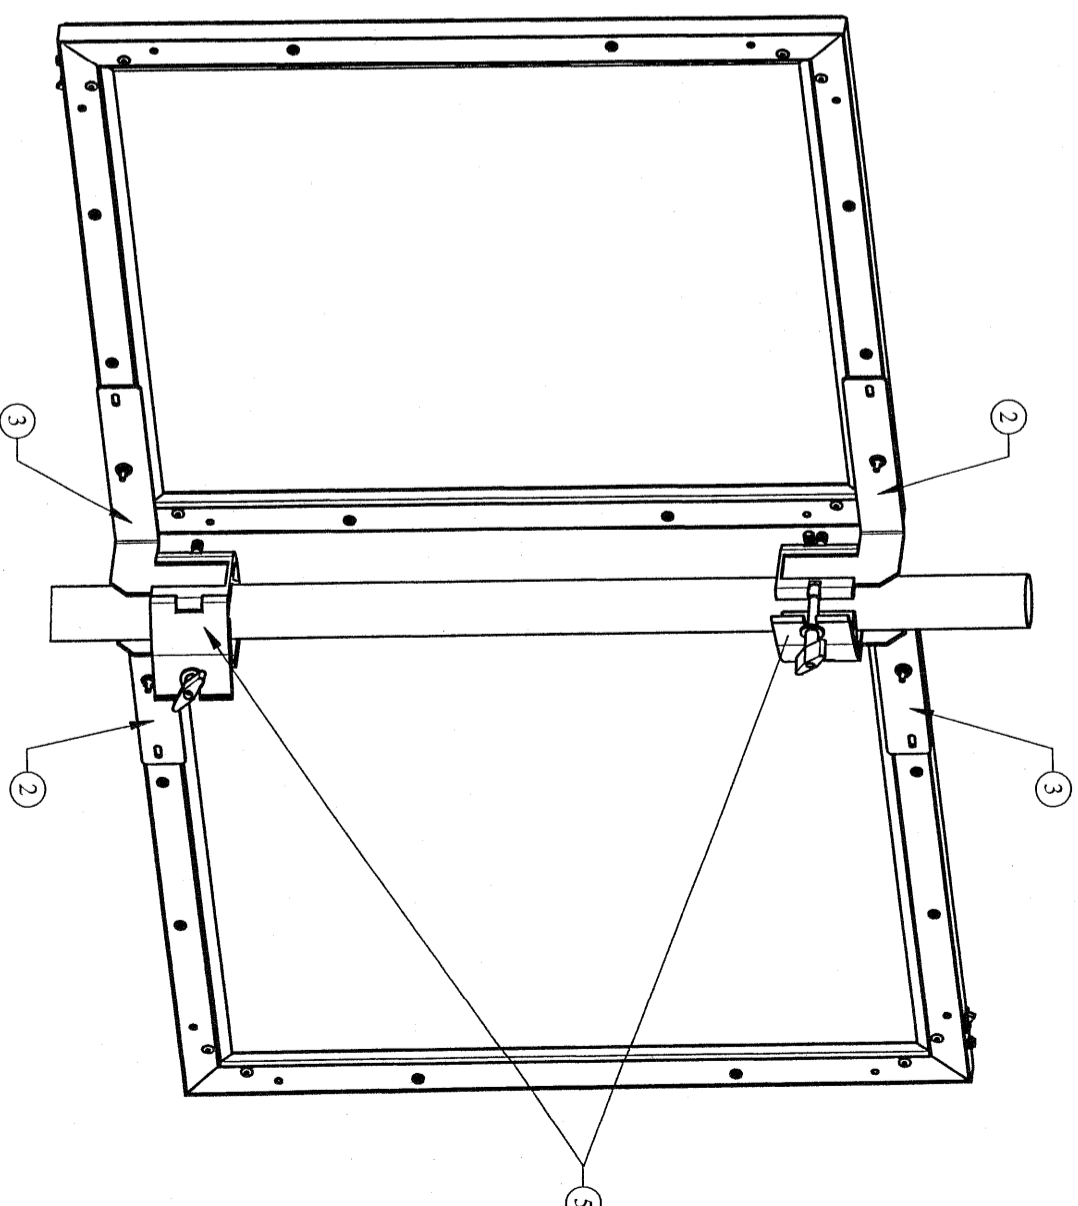

FIG.3
STEP 3: INSTALL (4) BRACKETS TO LIGHT PANELS WITH PROPER ORIENTATION (SEE FIG.3)